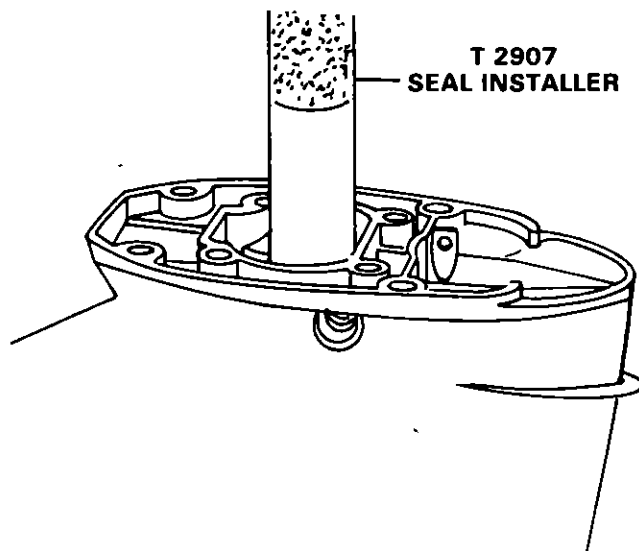

Figure 32. Installing Driveshaft Seal In Upper Gear Housing.
- D Position seal and tool in bore of upper gear housing Press seal in until it reaches bottom of bore Figure 32